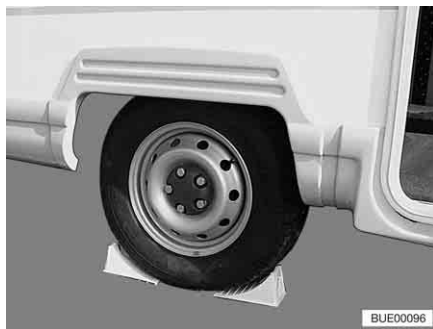

Fig. 275 Securing vehicle
- Place wheel chocks or other appropriate objects beneath the opposite wheel of the vehicle to secure it (Fig. 275).